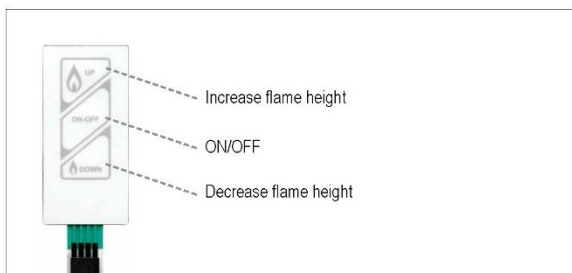

Figure 30: Touchpad/Wall Switch
- Press **ON-OFF** button (see figure 30) until two short beeps confirm the start sequence has begun; release button.